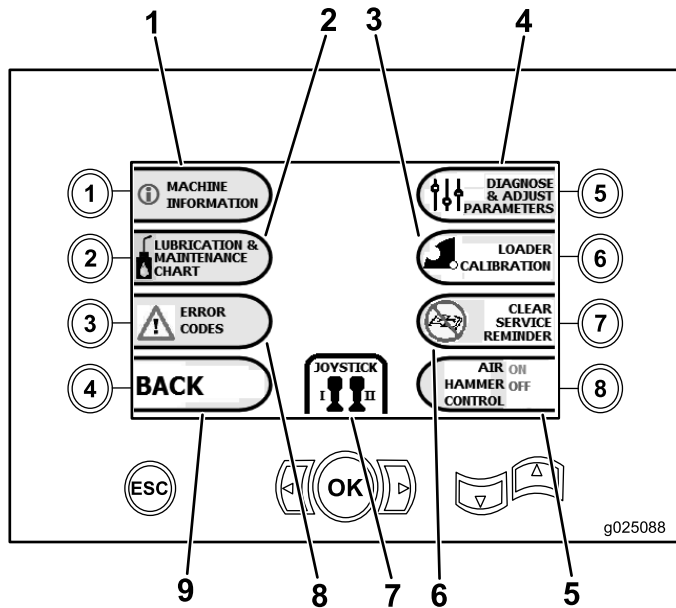

Figure 22
- Button 1—Return to the Machine-information Screen (page 26) as shown in Figure 22
- Button 2—Lubrication and maintenance chart (Figure 22)
- Button 3—Read error codes (Figure 22)
- Button 4—Return to the Main-selection Screen (page 30) as shown in Figure 22
- Button 5—Diagnose and adjust parameters (Figure 22)
- Button 6—Adjust the loader calibration (Figure 22)
- Button 7—Clear a service reminder (Figure 22)
- Button 8—Air-hammer control (Figure 22)
- OK button—Return to the Control-select Screen (page 25) as shown in Figure 22